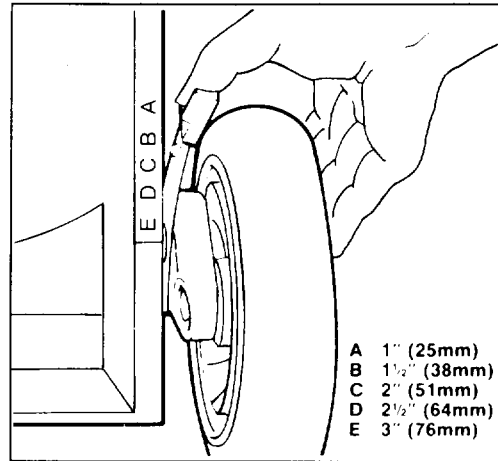

Figure 11
Five letters cast into the housing represent each graduated increment (Fig. 11).
2. For easier adjustment, lift housing up so wheel is off ground. Squeeze adjusting lever toward wheel and move it to desired setting (Fig. 11). Assure pin on adjusting lever engages notch in housing. Adjust all wheels to the same setting.